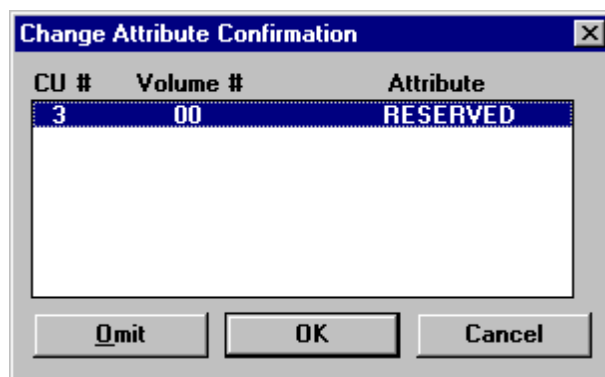

Figure 4.11 Reserving/Unreserving a Volume
3. The Change Attribute Confirmation panel (see Figure 4.11) displays your requested change. To delete a volume from the list, select it and then select **Omit**. To cancel your request, select **Cancel**. To make the requested attribute change(s), select **OK**.